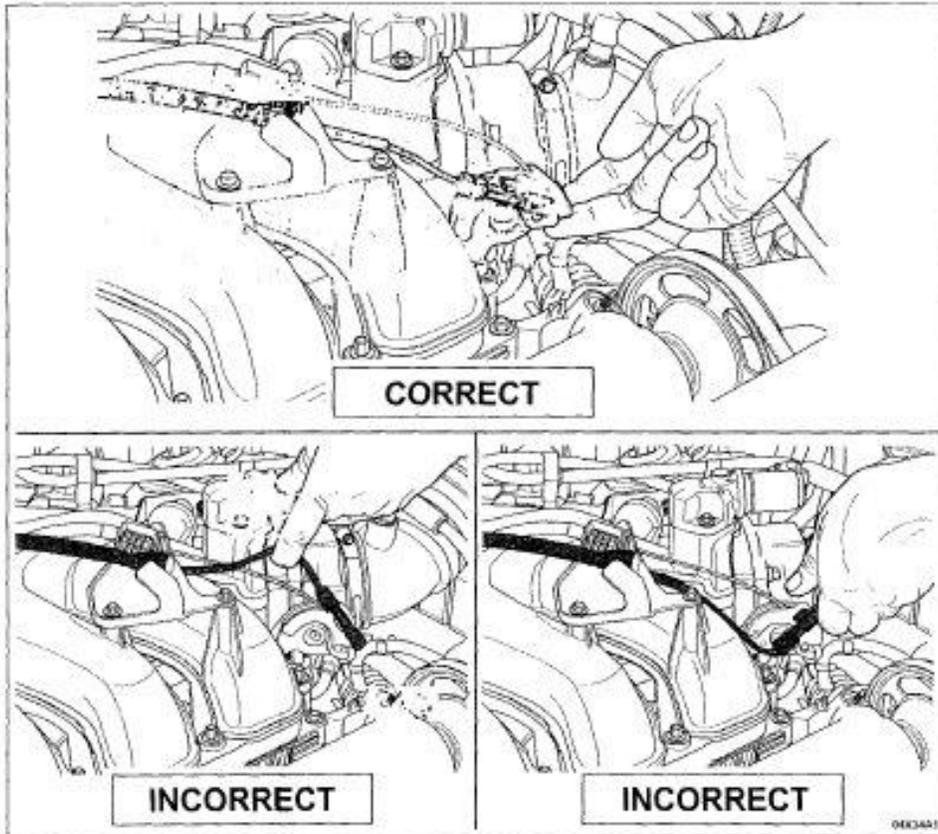

FIGURE 1
**CAUTION:** Damage to the speed control cable may result if the throttle body cam is rotated by lifting up on the speed control cable or the speed control cable connector end. When disconnecting the accelerator cable from the throttle body, rotate the throttle body cam only by lifting up on the cam itself. See Figure 1.